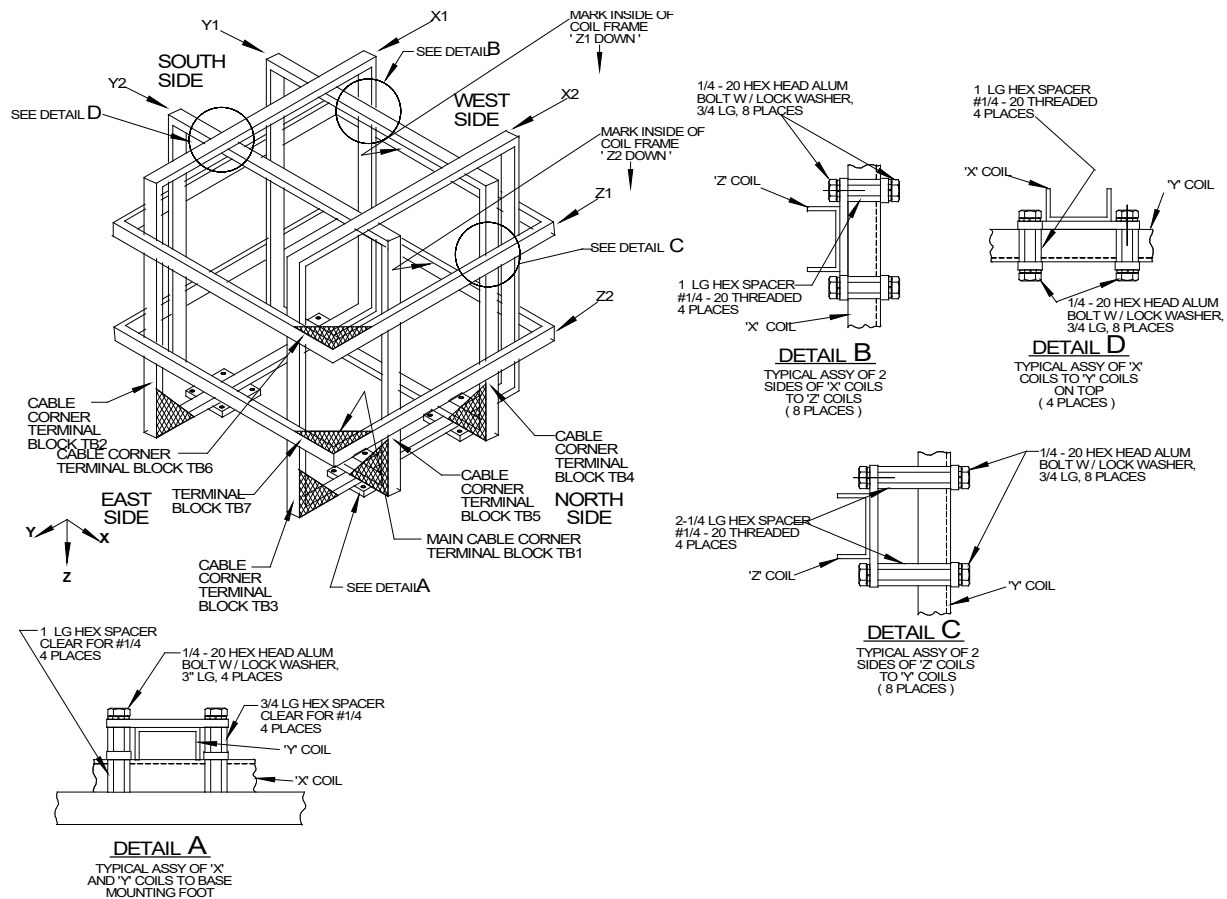

Figure 2-6 Final Assembly
2. Carefully align the mounting pads with the brackets on the X1 and Y1 coils. Insert spacers and screws into mounting pads as shown in detail A of Fig. 2-6. Align carefully until aluminum screws can be turned by hand.
5. At the top where the X and Y coils cross, install threaded spacers, ¼-20 x ¾" long hex screws and lock washers to the brackets as shown in detail D of Fig. 2-6.
3. Secure the Z1 coil to the Y coils with 2 1/4" threaded spacers, hex machine screws, and lock washers as shown in detail C of Fig. 2-6.